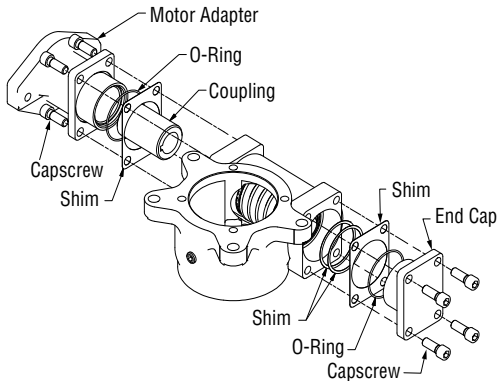

Figure 5-10, End Cap/Motor Adapter
9. Remove the end cap and motor adapter. Make note of any installed shims. Capscrews are installed with Loctite, so use a long handle wrench to break them loose. (Figure 5-10)